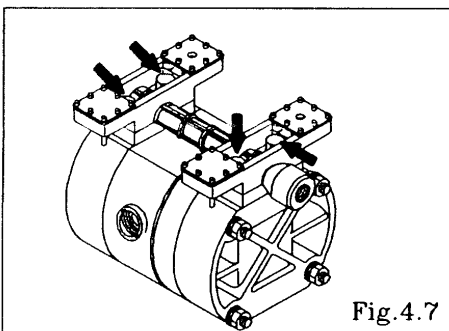

Fig. 4.7
- Turn over the main body assembly. [Fig.4.7]
- Remove the 4 retainer bolts from the in manifold, and remove the base and in manifold. (PlusAir -15) [Fig.4.7]